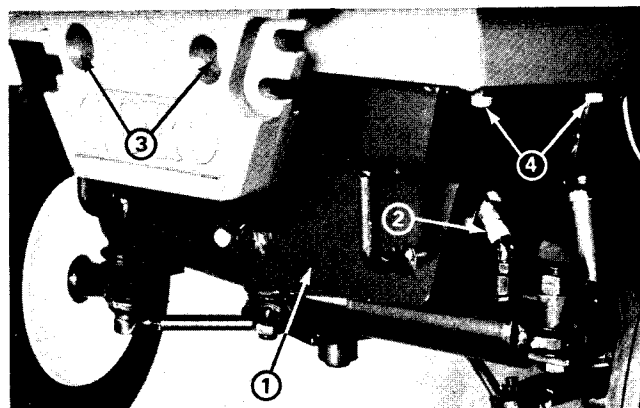
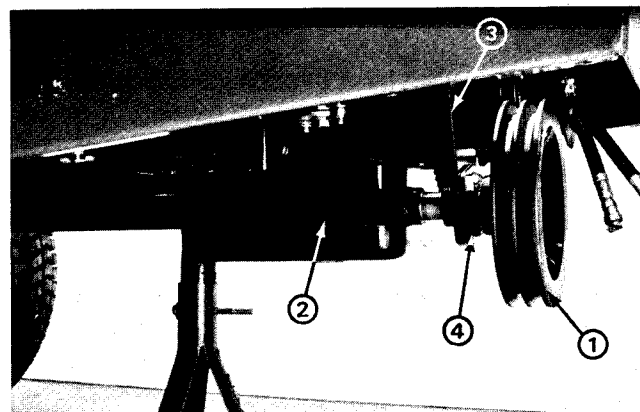

Figure 14
Figure 15
A. Disconnect the two hydraulic hoses from the fittings on the steering cylinder (Fig. 14). Put caps on the hoses and fittings to prevent contamination.
B. Remove the two (2) cap screws and nuts at the rear of the chassis. Remove the counter weight (if equipped).
D. Remove the four (4) cap screws securing the rear frame to the chassis. Carefully move the rear frame and axle assembly out from under the machine.
3. Remove the cap screw and washers from the PTO pulley (Fig. 15). Use a puller tool to remove the PTO pulley from the PTO shaft.